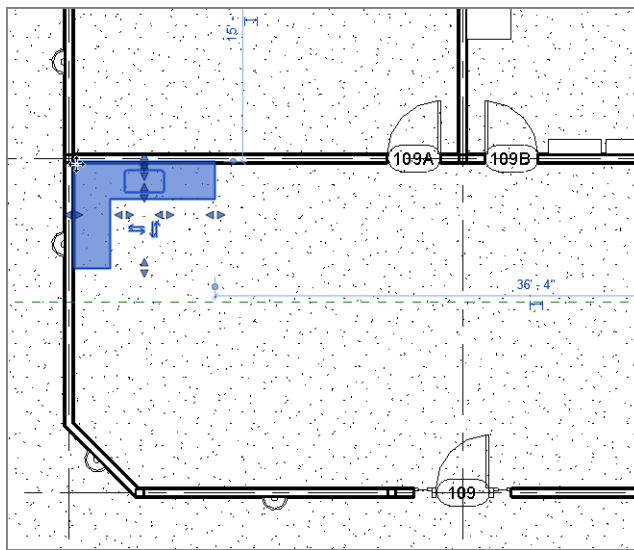

FIGURE 9.56: Adding the countertop
5. Open the Level 1 floor plan. Zoom in on the kitchen area, as shown in Figure 9.56.
6. Add the countertop (see Figure 9.56).